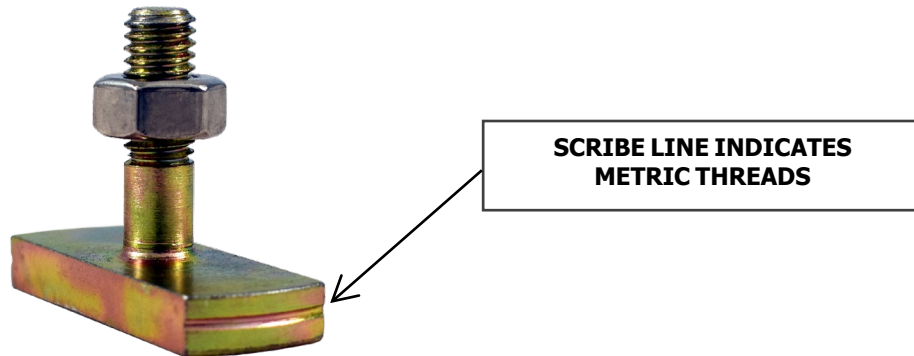

Figure 8: Identifying Metric vs. Imperial Tabs
**i** **INFORMATION:** BDI manufactures both Imperial (1/4-20) and metric (M6) tabs. To easily distinguish them from each other, BDI has scribed all metric items as seen in Figure 8.